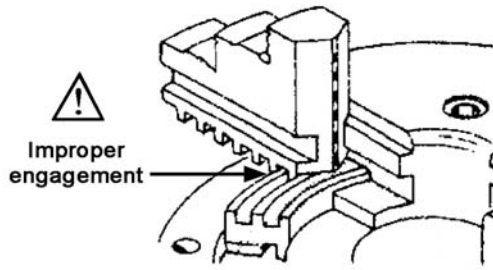

Figure 28 – Insufficient jaw tooth engagement
- Jaw teeth and scroll must be fully engaged, to prevent the jaws from breaking and being thrown from the chuck (see Figure 28).